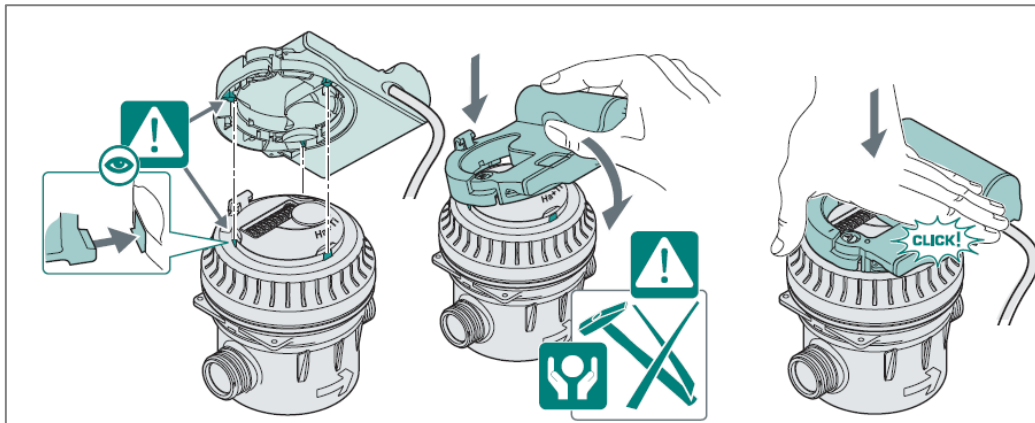

fig.6
- Position IZAR MBUS COMPACT i by aligning the hinges up with each other (fig.6).